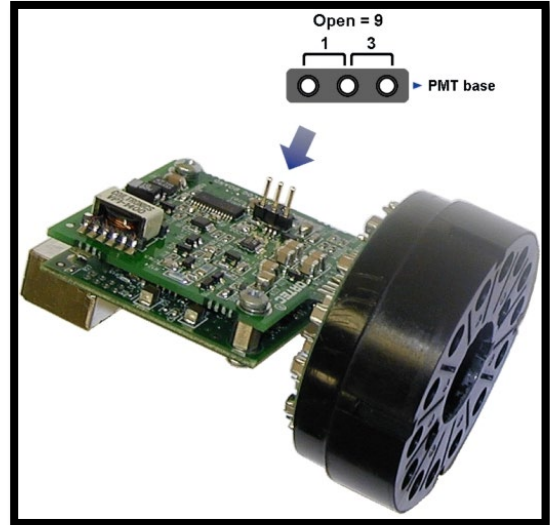

Figure 2. Setting the Coarse Gain Jumper
- Orient the digiBASE such that the tube socket is to the right. In this orientation, when the jumper is on the left-most and center pins, this coarse gain is 1. When the jumper is on the right-most and center pins, the coarse gain is 3. The gain is 9 when the jumper is removed. These settings are illustrated in Figure 2. To avoid losing the jumper in this high-gain setting, place it on just one of the pins at a 90° angle to the connector.